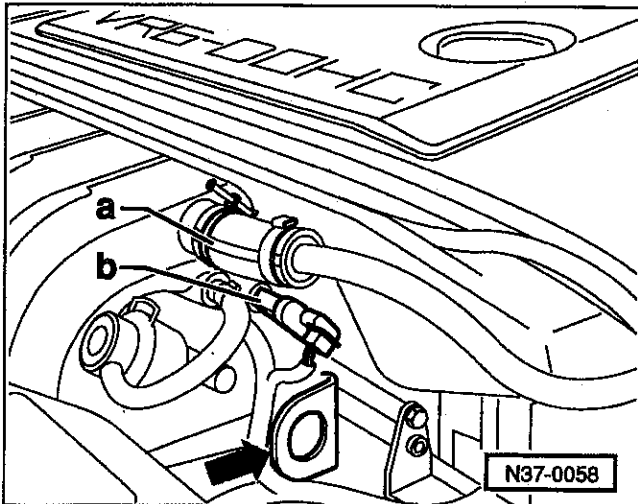

Fig. 13. Remove vacuum hose (a) and intake air temperature sensor (b) to prevent damage when lifting out engine. Rear lifting eye shown at arrow.
23. Remove the intake air temperature sensor and disconnect the vacuum hose at the upper intake manifold. See Fig. 13.